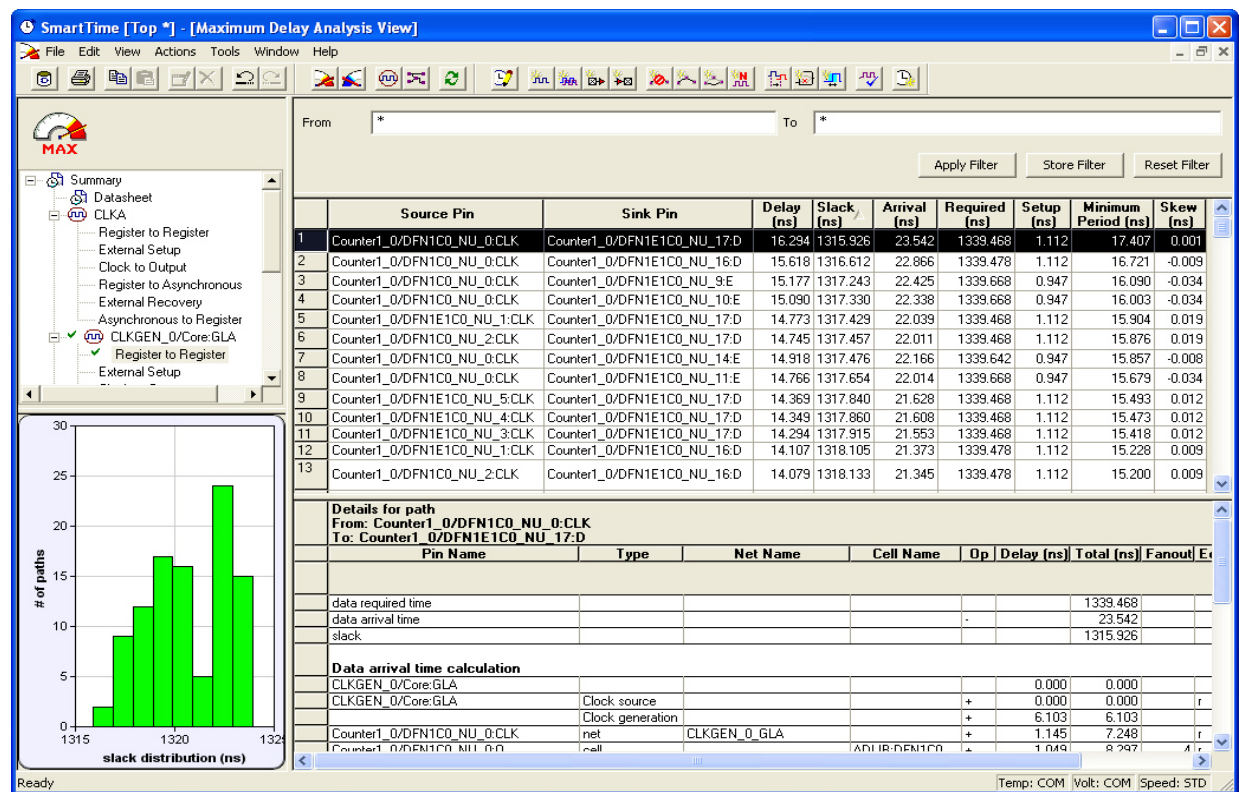

Figure 1-42 • SmartTime Max Delay Timing Analysis
- From the **Tools** menu, choose **Timing Analyzer > Maximum Delay Analysis**. Select the **Register to Register** path set for the **CLKGEN_0/Core:GLA** clock domain. Observe that the **Slack** column is positive, indicating that there are no timing violations (Figure 1-42).